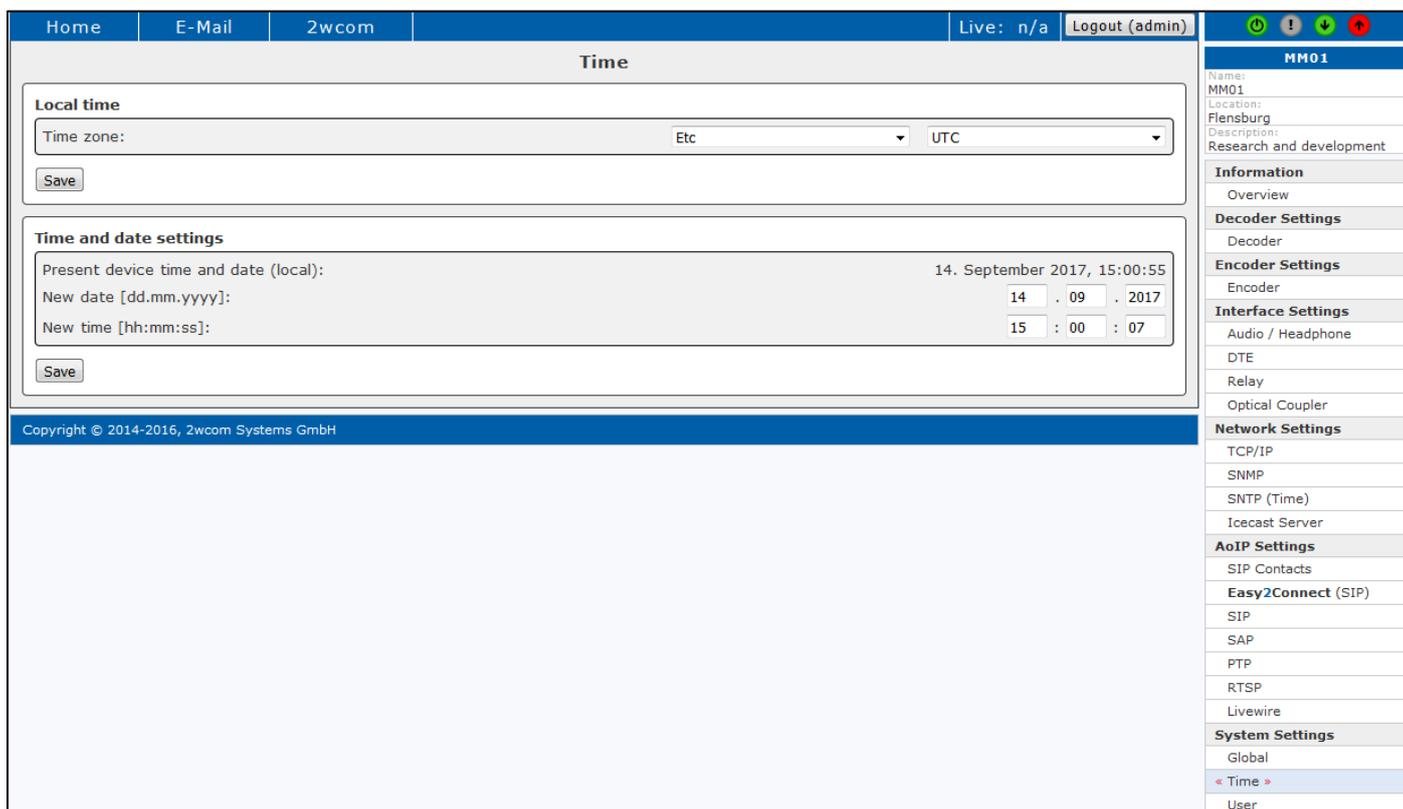

Figure 69: System Settings - Time
2. Click the Browse button in the **Rights** field (see Figure 69, #2 on page 91). The "Open file" dialog of your system software will be displayed.
2. Click the Browse button in the **SSL-Certificate update** field (see Figure 69, #3 on page 91). Select the file (PEM-File) and click "Update" button.
2. Click the Browse button in the **Firmware update** field (see Figure 69, #4 on page 91). The "Open file" dialog of your system software will be displayed.
1. Open the window *Time* under **System Settings**→**Time** (see Figure 69).